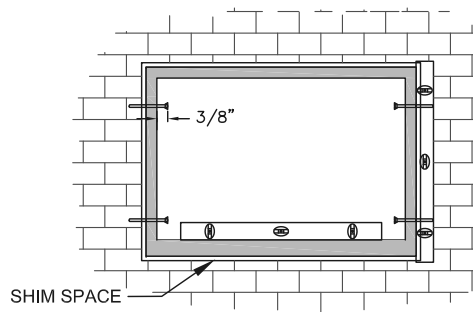

Figure 2
3. Insert the window frame and use approved shims to level sill. Center frame vertically and horizontally in opening. (Figure 2)
4. After the window is properly located in the opening and plumbed inside & out and side to side, insert four (4) installation screws. One (1) at the top & bottom of each jamb. Leave approximately 3/8" for adjustment. (Figure 2)